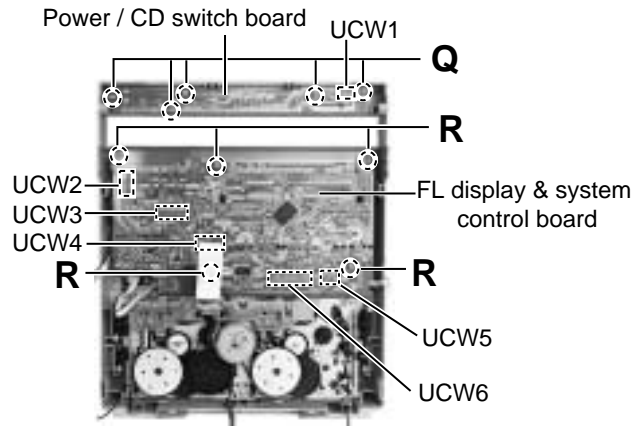

Fig.22
■Removing the power / CD switch board (See Fig.22)
■Removing the FL display & system control board (See Fig.22)